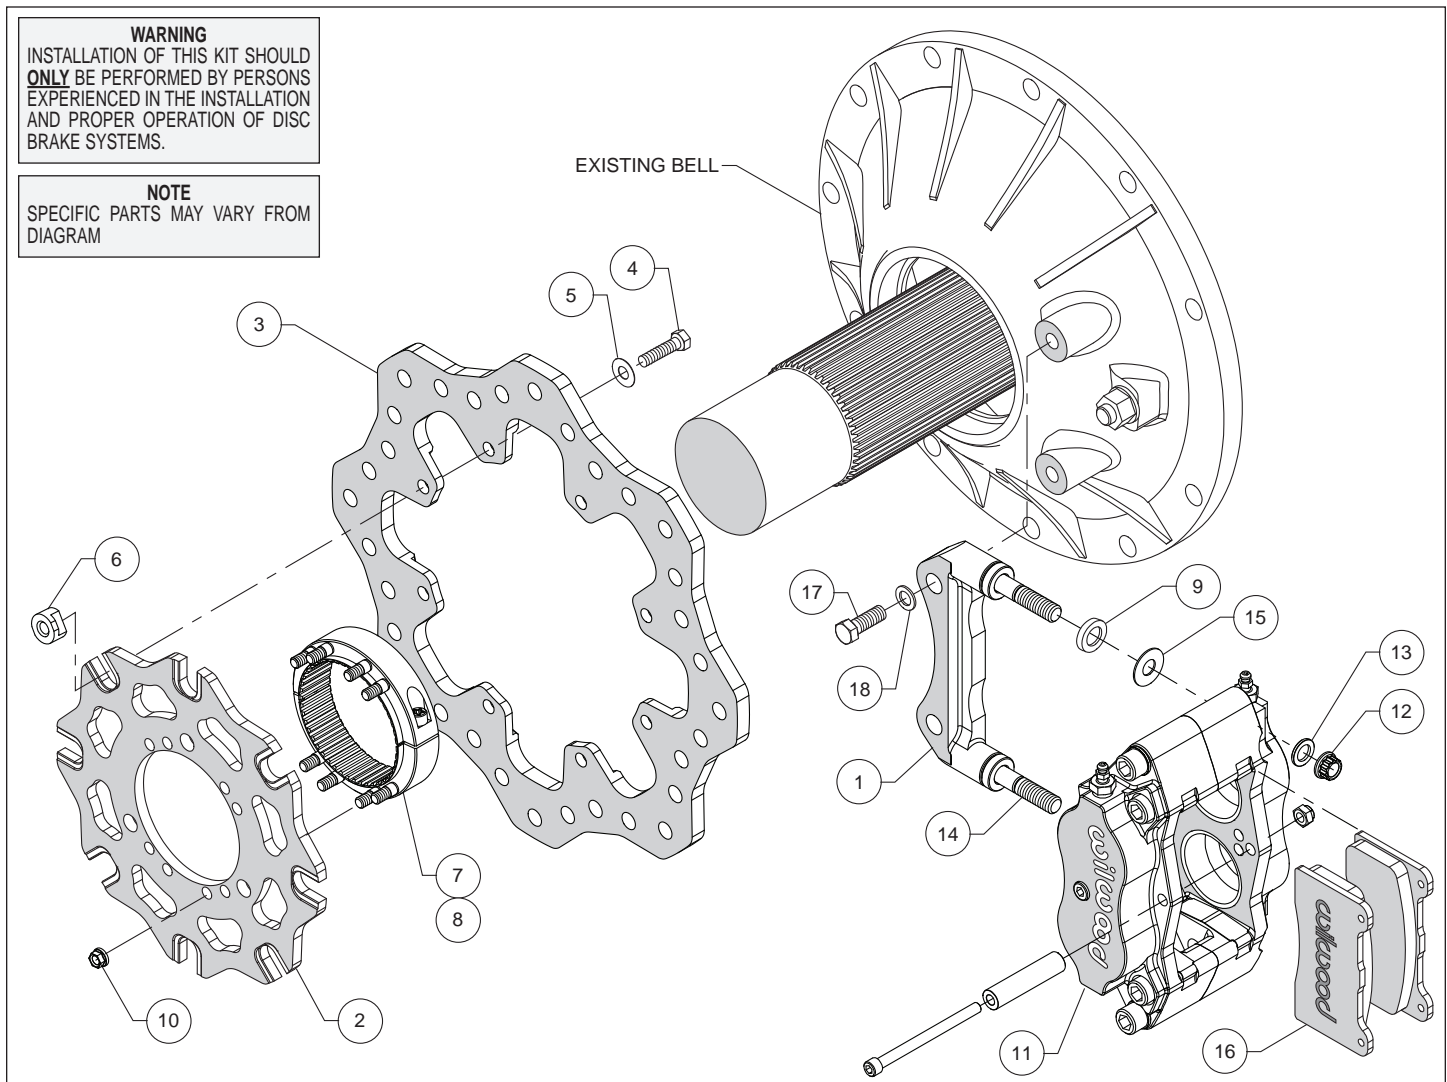

Figure 1. Typical Installation Configuration
- Orient the caliper mount bracket (1) as shown in Figure 1 and install using bolts (17) and washers (18). Temporarily tighten the mounting bolts. **NOTE:** The bracket must fit squarely against the mount bosses on the bell. Inspect for interference from casting irregularities, machining ridges, burrs, etc. Remove the bracket mounting bolts one at a time, apply red *Loctite*[®] 271 to the threads, and torque to 60 ft-lb.
- Orient the rotor adapter (2) and the rotor (3), as shown in Figure 1, and attach using bolts (4), washers (5) and t-nuts (6), Figure 1. Apply red *Loctite*[®] 271 to the bolt threads before installing. Finger tighten. After all t-nuts have been installed, torque bolts in an alternating sequence to 220 **in-lbs**. Please refer to Wilwood's data sheet DS-669 (available at www.wilwood.com/Pdf/DataSheets/ds669.pdf) for complete t-nut bolt kit installation instructions. **NOTE:** Rotor adapter may be fix mounted to rotor (instead of floating mount) using customer supplied hardware.
- Orient the axle clamp assembly (7 and 8, pre-assembled) as shown in Figure 1 and install onto the rotor adapter (2) using nuts (10). Tighten nuts part way while still allowing clamp-to-rotor movement. The nuts will be torqued later, after aligning the rotor. **NOTE:** *The axle clamp should be positioned inside of the rotor as shown in Figure 1, not offset, or outside of the rotor adapter.*
- Lubricate the caliper mounting studs (14) with lightweight oil. Initially place one .030" thick shim (15) and one spacer (9) on each stud as shown in Figure 1. Mount the caliper (11) onto the bracket (1) using lock nuts (12) and washers (13), Figure 1. Temporarily tighten the lock nuts (12) and view the rotor through the top opening of the caliper. The rotor should be centered in the caliper. If not, slide the rotor/adaptor assembly on the axle until the rotor is centered in the caliper. Tighten the clamp nuts first, locking the clamp to the axle. Torque nuts (10) to 140 **in-lbs**.
- Remove the caliper center bridge pad retainer bolt, nut, and tube from the caliper. Insert the brake pads (16) into the caliper, with the friction material facing the rotor. Check that the top of the brake pad is flush with the outside diameter of the rotor. If not, adjust by adding or subtracting shims (15) between the caliper and the bracket. After the caliper pad height is set, torque the caliper lock nuts (12) to 30 ft-lb. Secure the brake pads in place with the center bridge pad retainer tube, bolt, and locknut. The locknut should be snug without play in the bolt or tube. Be cautious not to over tighten.